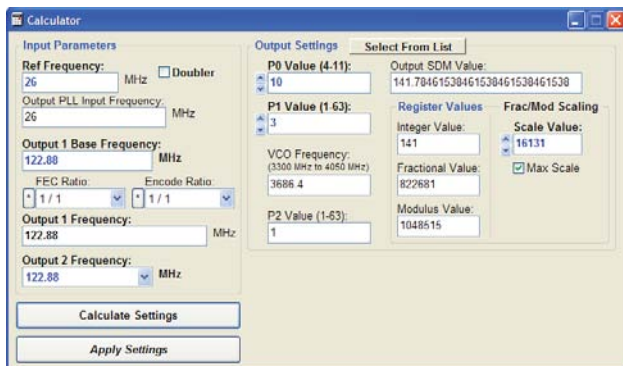

Figure 18. Calculator Window
7. The **Calculator** window, shown in Figure 18, appears.
9. Click **Calculate Settings**. Because the AD9552 is designed for flexibility, there is more than one possible divider settings to achieve the same output frequency. Click **Select From List**, located at the top of the **Output Settings** box (see Figure 18). This generates all possible solutions. The user should click each solution and try to determine which has lowest spur for example.